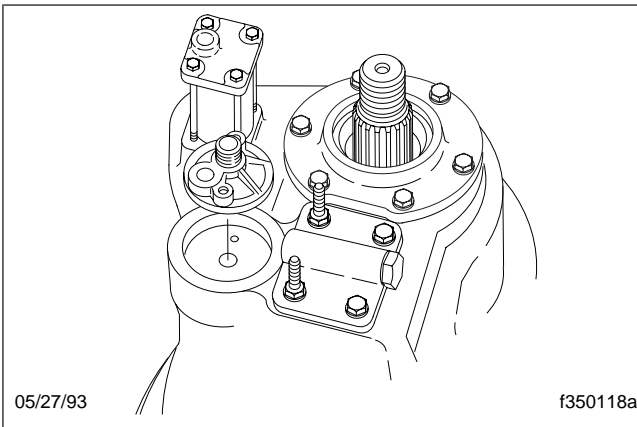

Fig. 10, Axle Oil Filter Adapter Removal and Installation
- 3.3 Remove the capscrews, washers, and oil filter adapter from the gear cover; then inspect the threads of the filter mounting tube and adapter casting. See Fig. 10. If the threads are stripped or the casting is cracked, replace the damaged component.